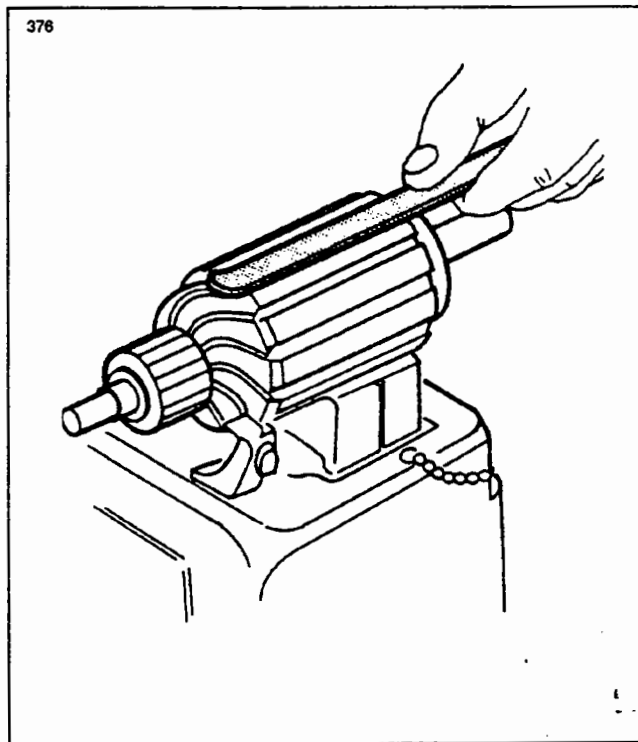

Figure 80-3. Testing Motor Armature for Shorts
3. To test for shorted armature coils, a growler is used. Refer to Figure 80-3. The armature is placed on the growler and slowly rotated by hand while a steel strip is held over the core so that it passes over each armature core slot. If a coil is shorted, the steel strip will vibrate.